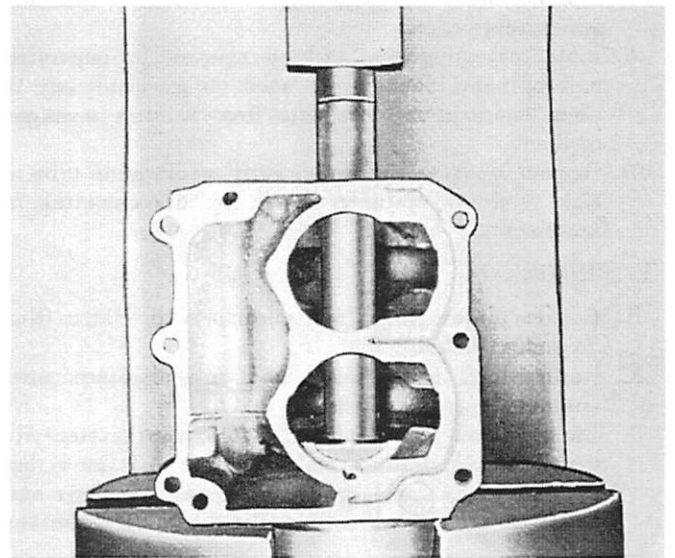

Figure 4. Pressing Out Lower Crankcase Bearing
5. Press out roller bearing and oil seal from crankcase lower end with Needle Bearing Tool (91-24715A1). Use Arbor Press when pressing out bearings. (Figure 4)